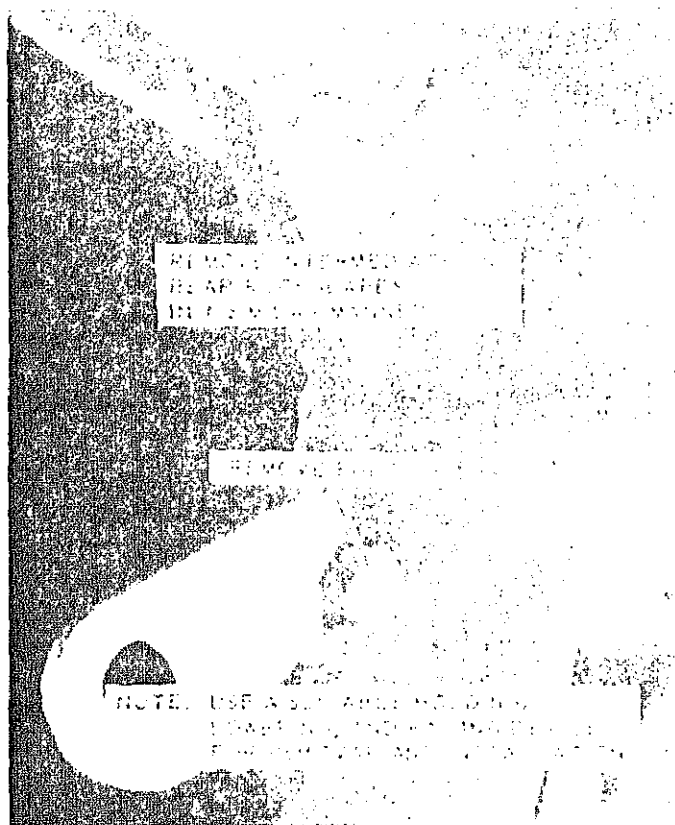

Figure 4-46. Rock guards, removal and installation.
a. *Removal.* Remove rock guards as illustrated in figure 4-46.
(1) Clean parts and dry thoroughly.
c. *Installation.* Install rock guards in figure 4-46.